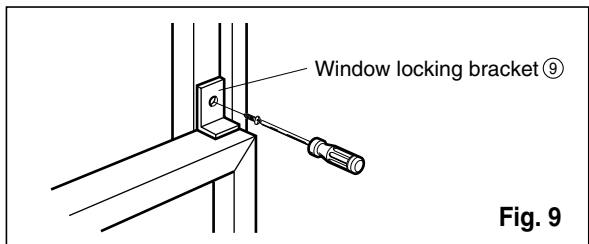

Fig. 9
12. Attach the window locking bracket ⑨ with a type C screw. (See Fig. 9)